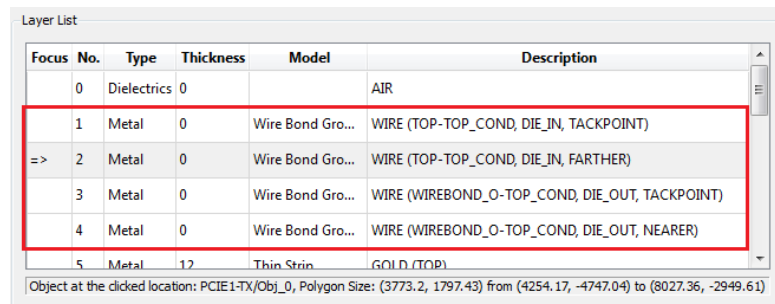

Fig. 14 Define Layer Type
- In the *Layer List* window, click the combo box in *Type* column to define model type of each metal layer. As can be seen in Fig 14, No. 1~4 layers have been automatically defined as bond wire layers. Metal layers can be either *Thin* or *Thick* type. If a metal layer is not intended to be included in the EM model, define it as *Void*. To change the material parameters of a metal or substrate layer, double click the layer and change the parameters in the material window. For this example, Layer 9 and 15 should be defined as *Thick* model since the thickness should be applied to traces to preserve high simulation accuracy: